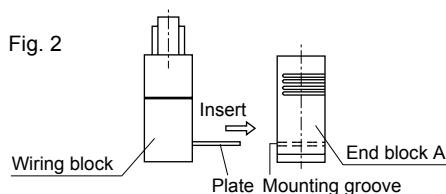

Fig. 2
- (4) Insert the bottom plate section of the wiring block body into the mounting groove (Fig. 2) of end block A and similar to (3), fix the screws of the end block on the fastening rail.